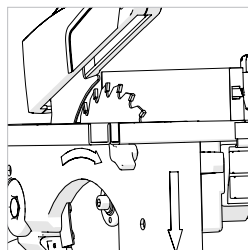

Fig. 21
- Slide the Fence Assembly up to the blade, raising the Blade Guard by hand so that the Face Plate rests alongside the blade and underneath the Blade Guard. (**Fig. 21**)